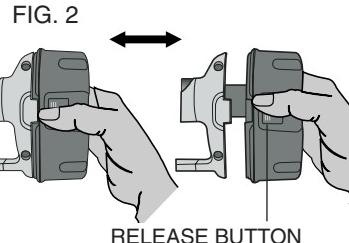

FIG. 2
**NOTE:** Make sure your battery pack is fully charged. To install the battery pack into the tool handle, align the base of the tool with the notch inside the tool's handle and slide the battery pack firmly into the handle until you hear the lock snap into place as shown in FIG. 2.